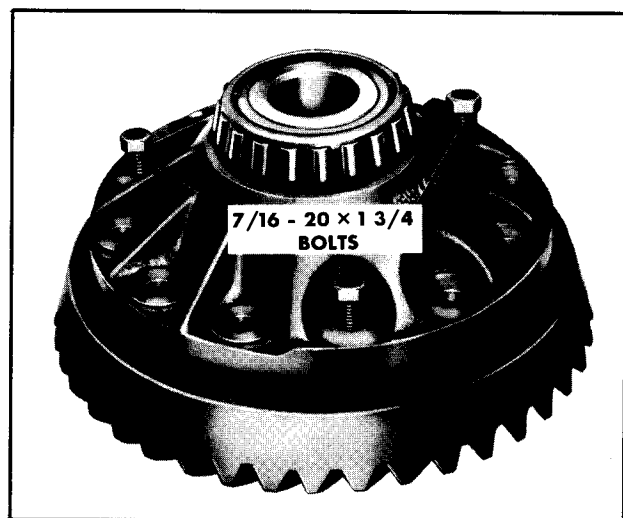

Figure 50—Installing Ring Gear to Case
1. After making certain that mating surfaces of case and ring gear are clean and free of burrs, install three 7/16-20 x 1-3/4 in. bolts as shown in Figure 50 to correctly position ring gear.